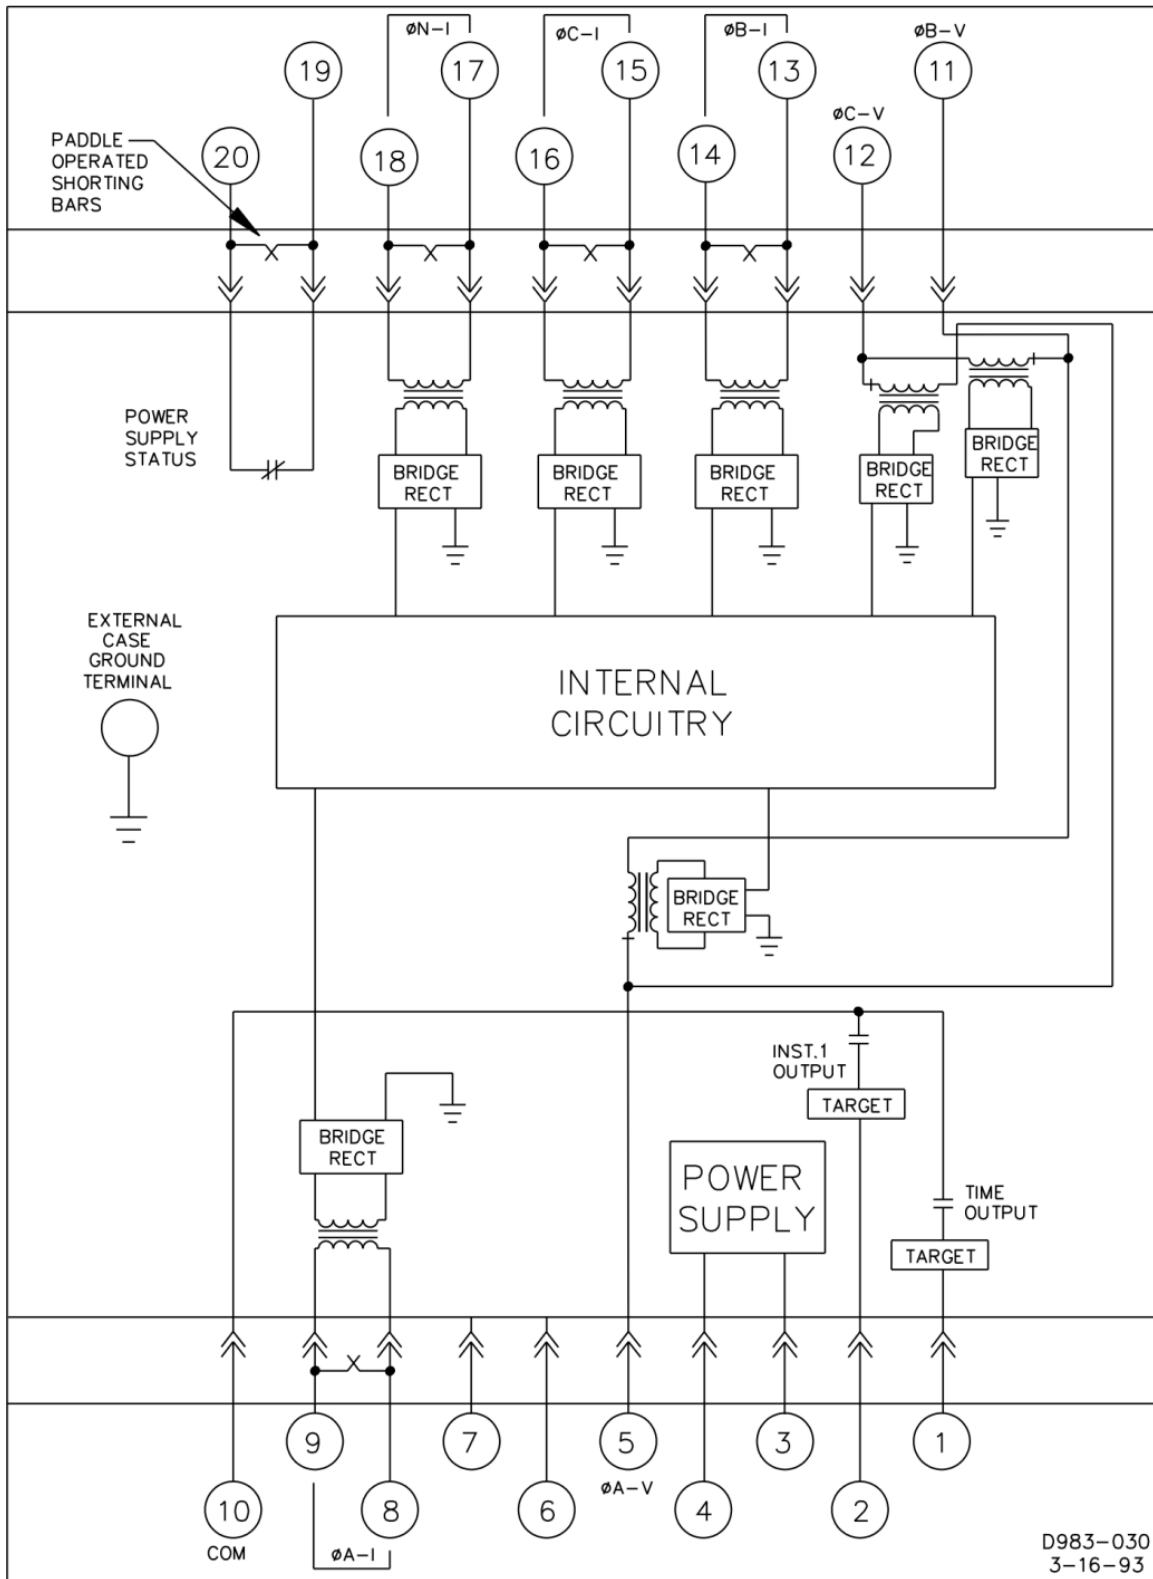

Figure 4-24. Typical Internal Diagram, Sensing Input Type D
- Figure 4-24: Typical Internal Diagram, Sensing Input Type D